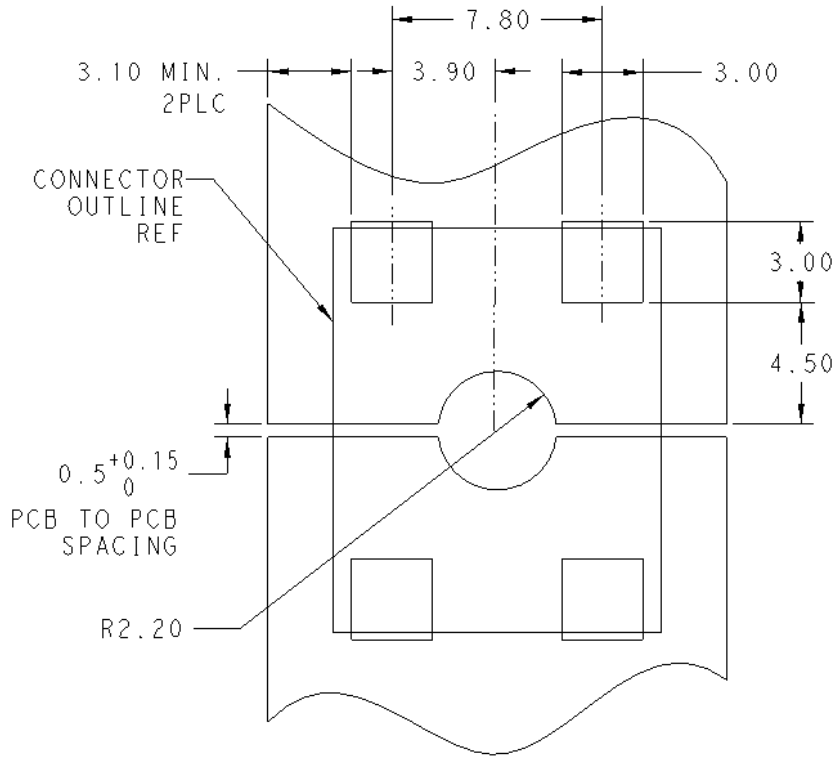

Figure 2
3.5. PC Board Material and Thickness (see Figure 2)
When placed on the pc board, features in the housing should align with the semi-circular cutouts on the pc boards. This will ensure the contacts are aligned with the pc board solder pads, provided the pc board layout and pc board spacing is per Figure 2. (*Jumpers should be handled only by the housing to avoid deformation, contamination, or damage to the contacts.*)